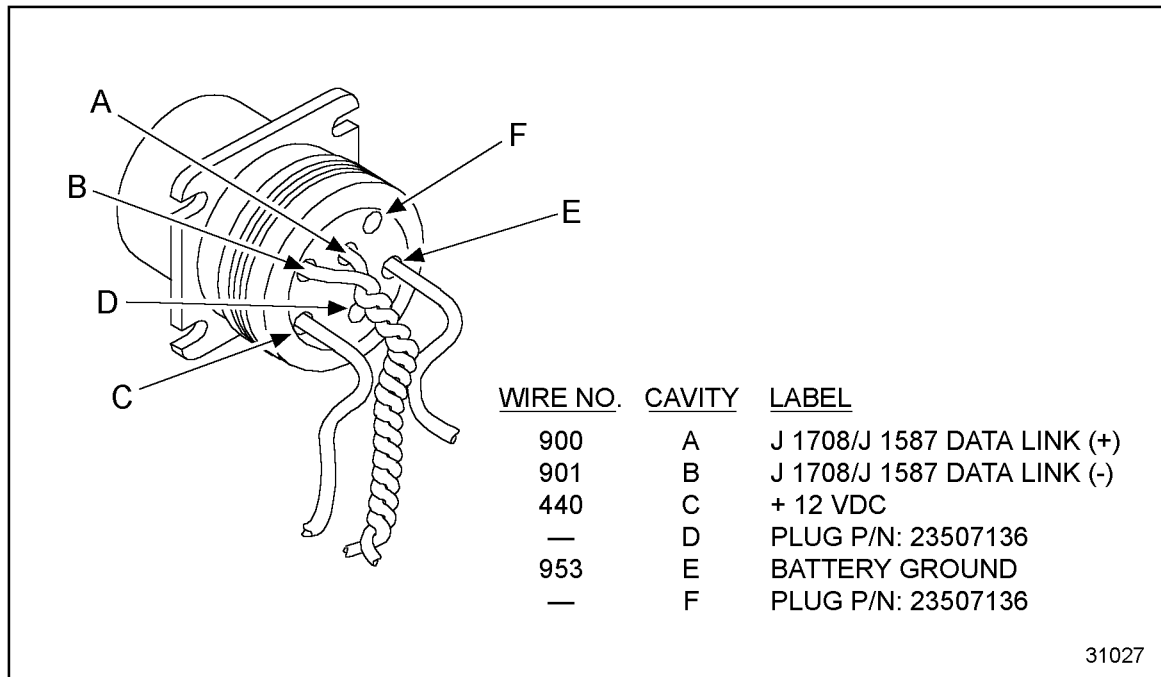

Figure 8-8 Wiring for Six-pin Data Link Connector
- ☐ A six-pin Deutsch connector, P/N: 23513052 (Deutsch HD-10-6-12P), see Figure 8-8 for the wiring for the six-pin connector.